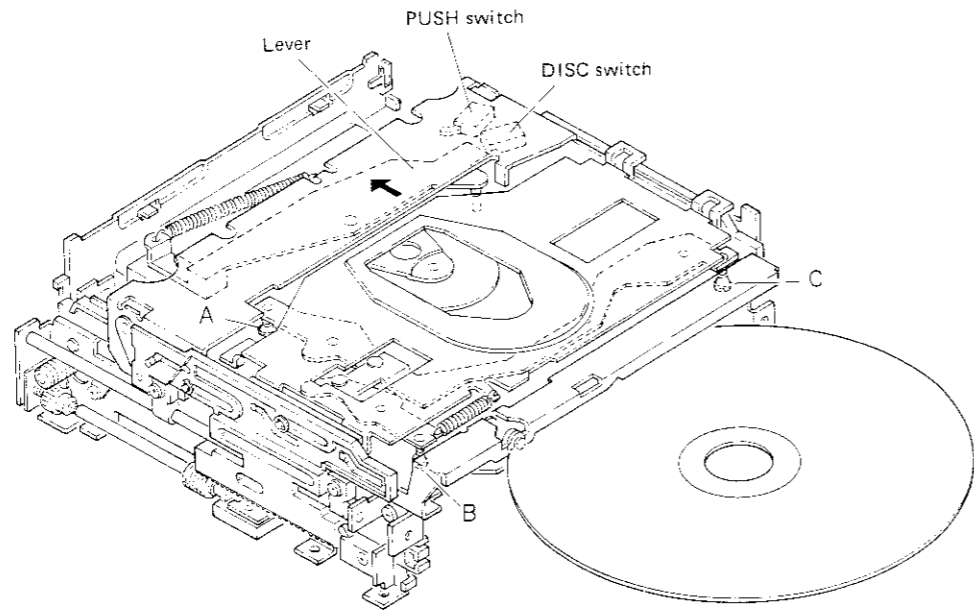
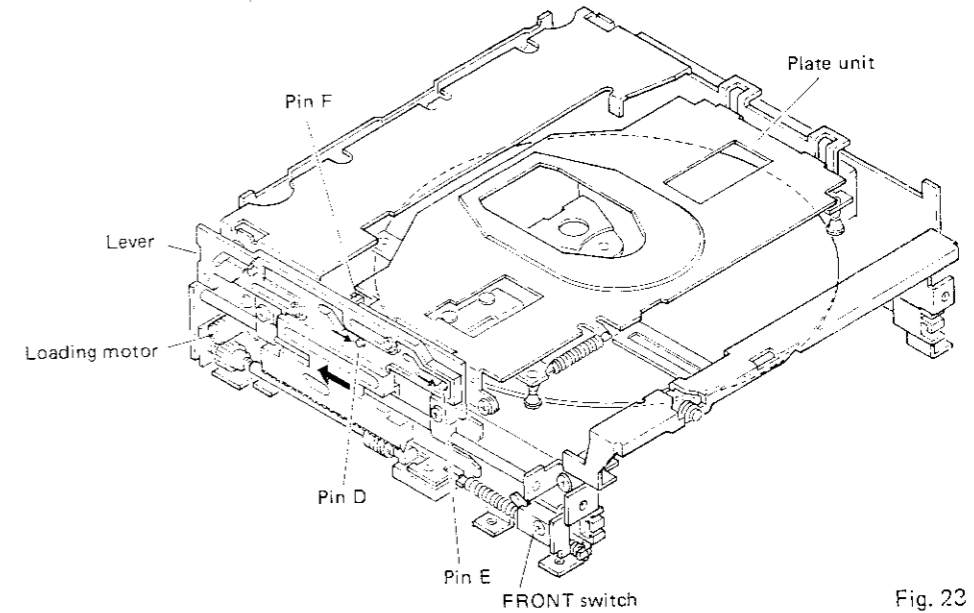

Fig. 22
Fig. 23
1. When a disc is inserted, it is supported at point A, B and C. At the same time, a lever moves toward the arrow direction and the DISC switch is opened (Fig. 22).
2. When the disc is pushed further, a PUSH switch is turned on and the loading motor rotates to start loading (Fig. 22).
3. A lever and plate unit are shifted toward the arrow direction, then the FRONT switch is opened (Fig. 23).
4. When the center of the disc comes to the spindle motor, plate unit movement toward the back is terminated and it is then shifted down by the pins of D and E (Fig. 23).
5. A lever moves further toward the back which widens point A, B and C (Fig. 22) using pin F and frees the disc (Fig. 23).